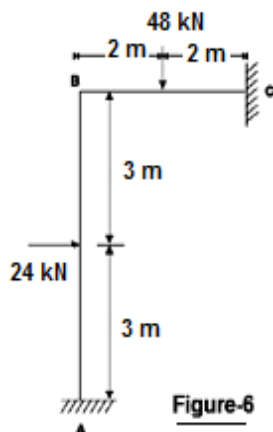

Figure-6
- (c) Analyze the rigid frame shown in **figure-6** by direct stiffness method. Assume $E = 200\text{GPa}$; $I_{ZZ} = 1.33 \times 10^4 \text{m}^4$ and $A = 0.04 \text{m}^2$. EI and axial rigidity AE are the same for both the members. **07**
- (b) A rigid frame is loaded as shown in the **figure-6**, Compute the reactions and draw bending moment, shear force and axial force diagram if the support 'C' settles by 10 mm vertically downwards. **07**